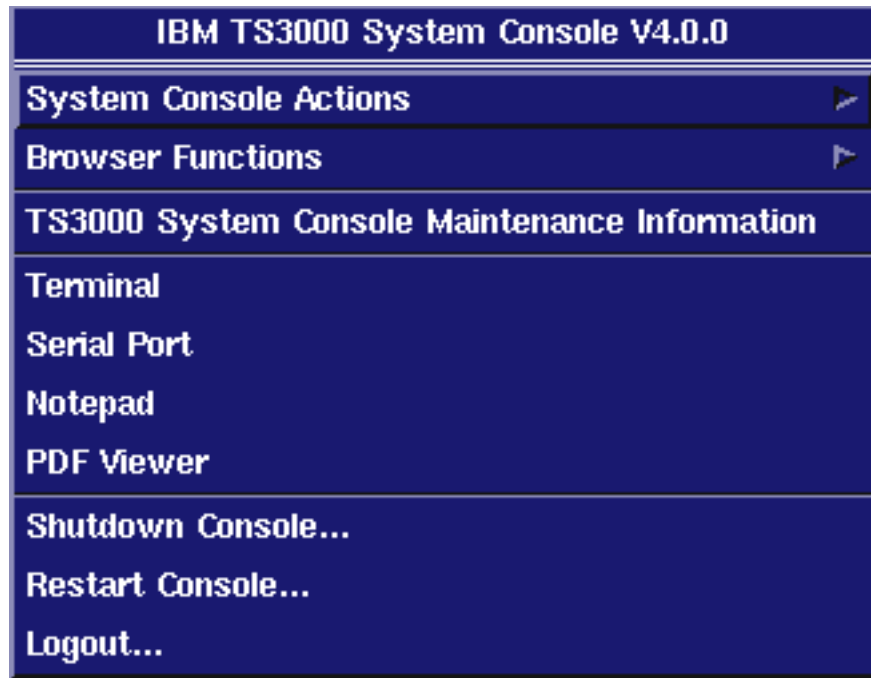

Figure 2-94. Serial Port Selection on System Console Screen
1. After logging in to the System Console, from the System Console desktop, right click on the desktop to see Figure 2-94 on page 2-69.